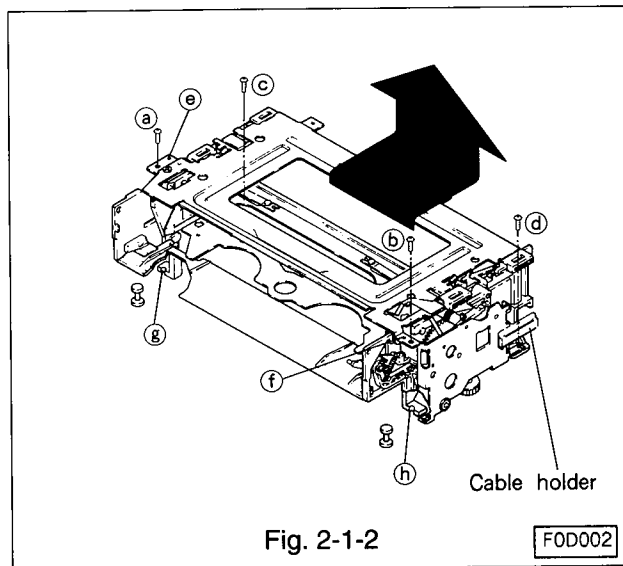

Fig. 2-1-2
- Unscrew four cassette housing fastening screws (a ~ d). Raise the cassette housing slowly in the direction shown by the arrow.(Refer to Fig. 2-1-2.)
- Fasten the housing to the deck with the four screws (a ~ d).(Refer to Fig. 2-1-2.)